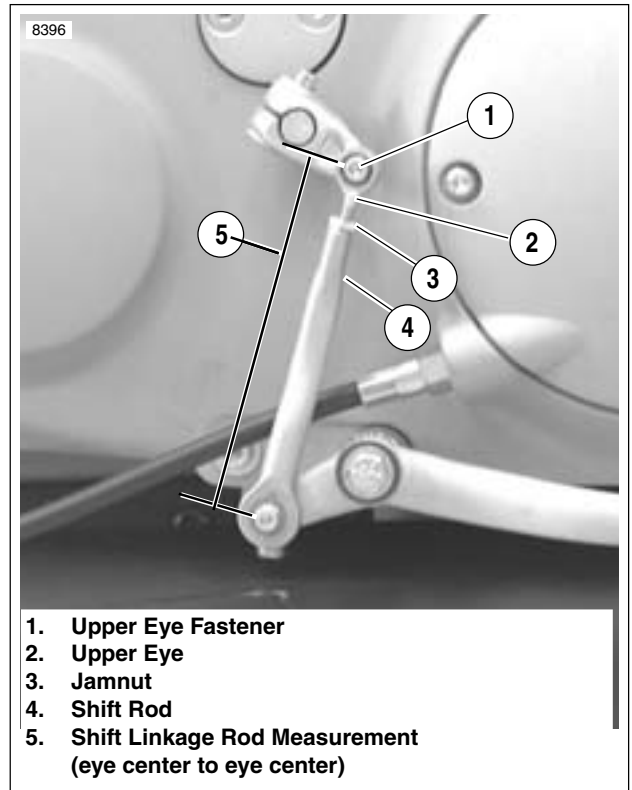

Figure 1-13. Shift Linkage Rod Adjustment
2. See Figure 1-13. Measure the shift linkage rod by measuring the distance from the center of the lower eye to the center of the top eye (5). For settings see Table 1-7.
1. See Figure 1-13. Remove upper eye fastener (1), upper eye (2) from shift rod (4).
2. Loosen jam nut (3). Rotate upper eye clockwise to shorten, or counterclockwise to lengthen to factory settings of 4.75 in (120.7 mm) or maximum length of 4.88 in (124 mm).